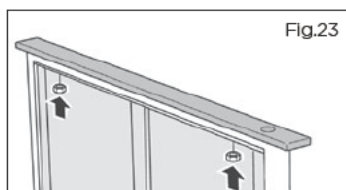

Fig.23
- Connect the top trim to the downdraft unit by threading the $\frac{5}{32}$ " (7 mm) nuts onto the top trim screws Fig.23.